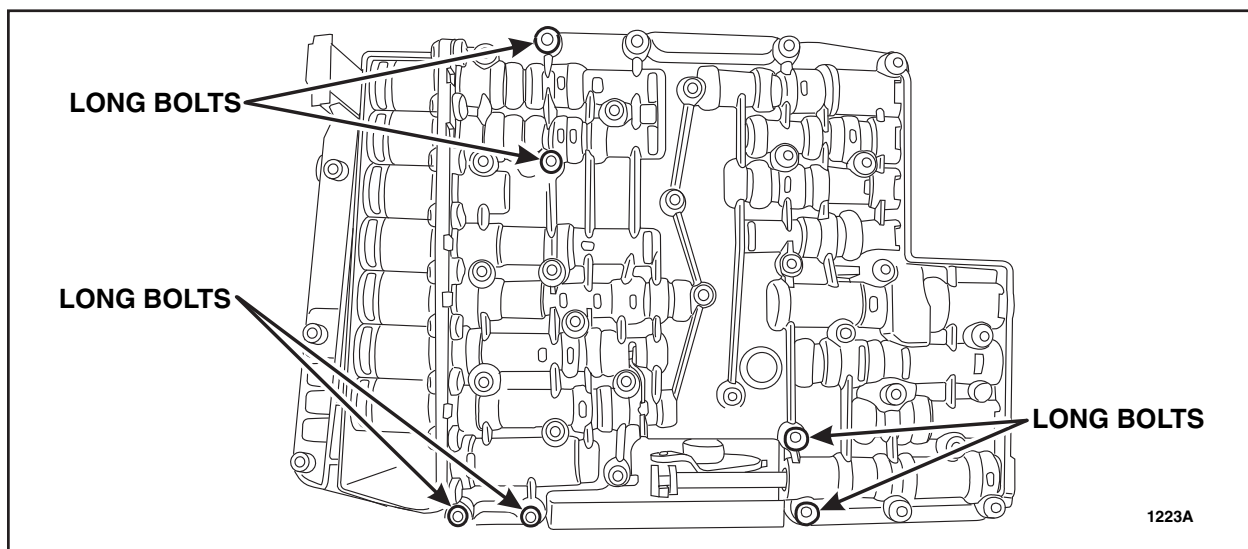

FIGURE 2
5. Remove the six long bolts from the molded lead frame. See Figure 2.